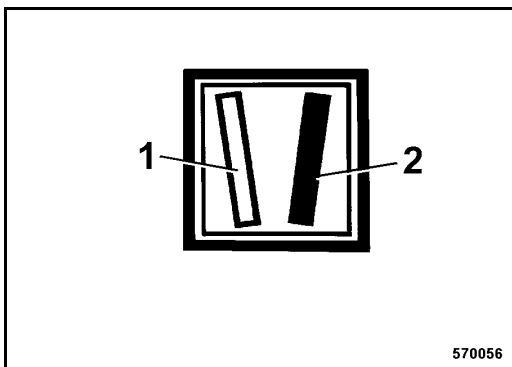

Fig. 161
Valve (1) (Fig. 161) white = not adjustable